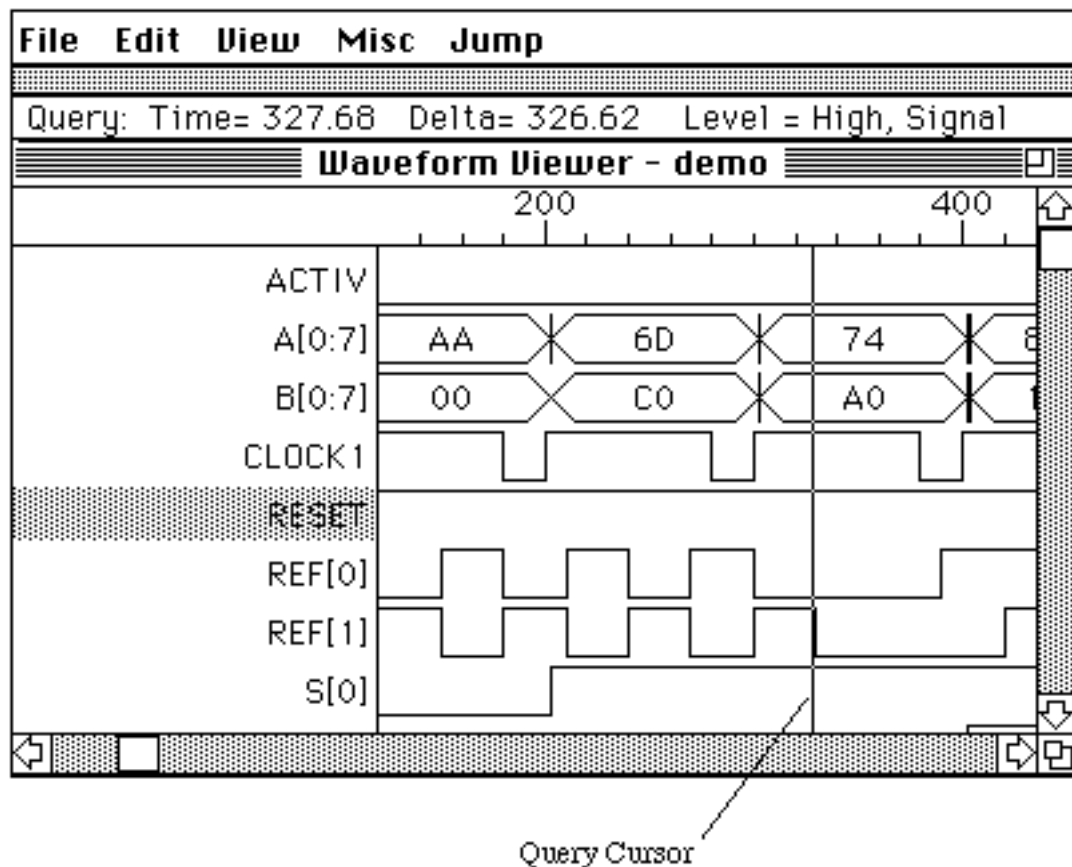

Figure 8-10 Waveform Window Showing Query Cursor
The query cursor is a vertical line as shown in Figure 8-10. Information about the currently queried signal is displayed on the prompt line as shown in Figure 8-10. Use the following procedure to place the query cursor
3. Clicking the mouse locks the query cursor time and locks the selected waveform. The Selected waveform is highlighted in the name area as shown for the *RESET* signal in Figure 8-10. The time of the query cursor is displayed in the prompt line. The value of the selected waveform is also displayed as the *Delta* on the prompt line.
1. Select the **Misc->Set Trigger** command. The dialog box shown in Figure 8-10 opens.